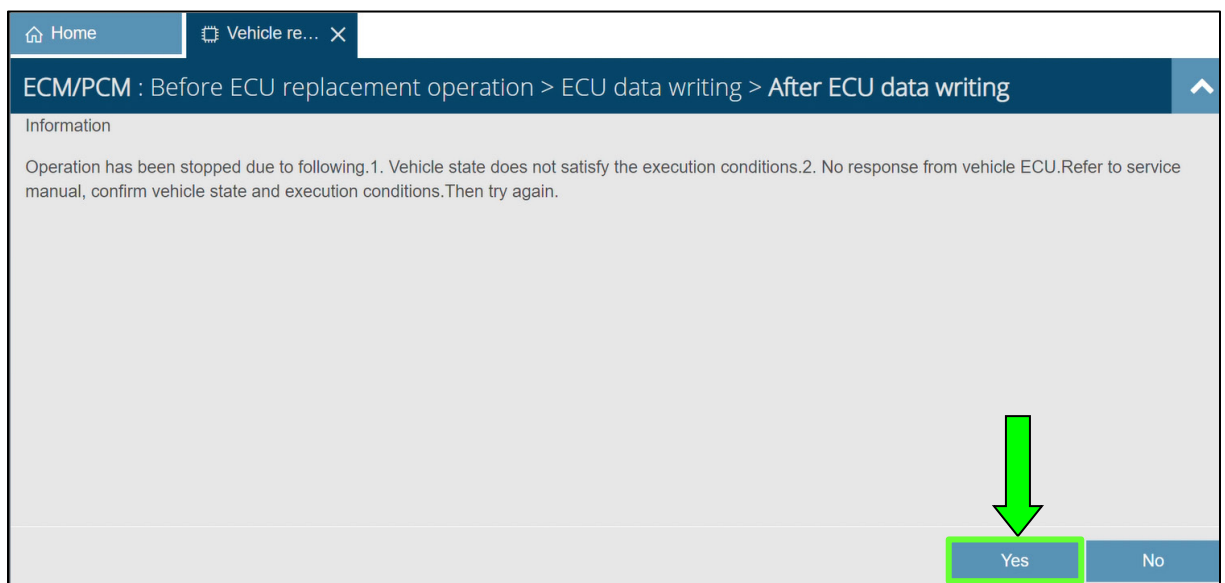

Figure 25
27. If the error shown in Figure 25 is present, select **Yes** and reattempt IAVL once it is displayed.